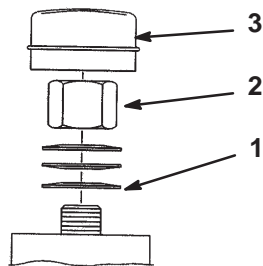

Figure 42
2. Remove dust cap from caster and tighten lock nut (Fig. 42).
3. Tighten until spring washers are flat and then back off a 1/4 turn to properly set the pre-load on the bearings (Fig. 42).
Important Make sure spring washers are installed correctly as shown in figure 42.